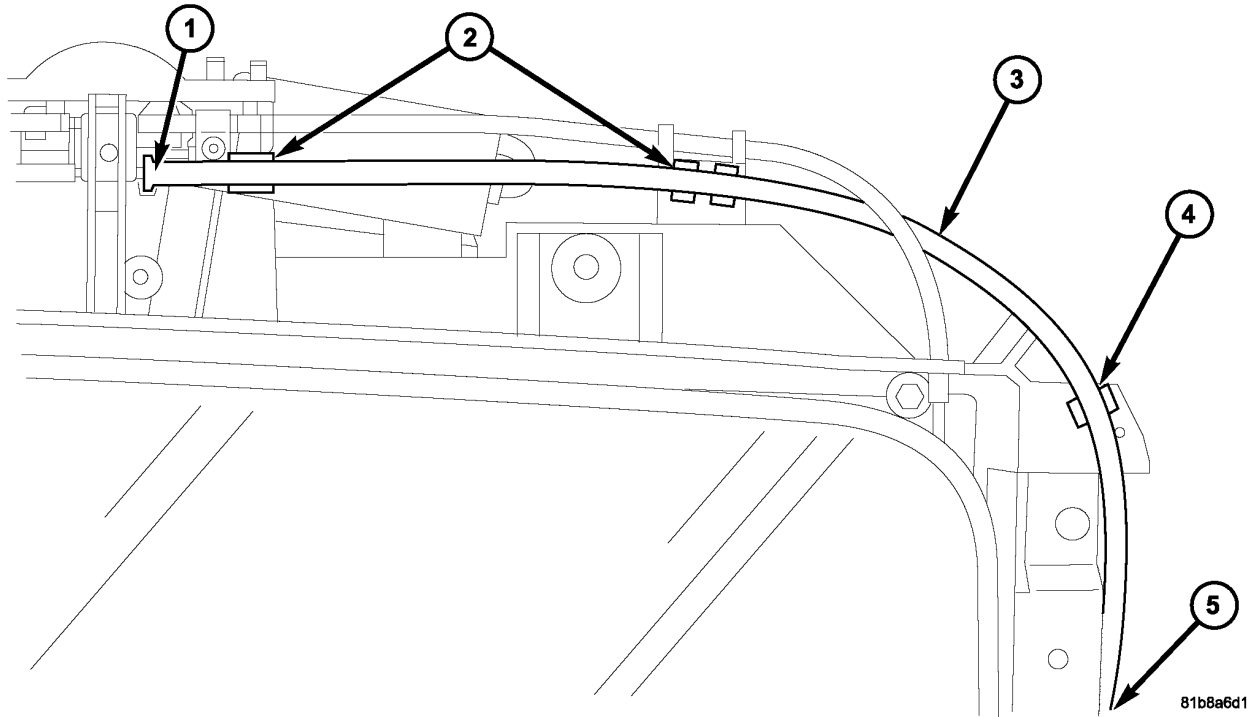

Fig. 6 CONDUIT ROUTING/RETENTION
6. Push the conduit up and inboard to release it from the retention feature on the front beam, (Fig. 6) item 4.
- 7. Push the conduit up to release it from the additional retention features, (Fig. 6) item 2.
- 9. Slide the new conduit, p/n 68003816AA, back over the drive cable. See (Fig. 6) item 1, to ensure conduit is seated into notch to the rear of the steel drive cable tube.
- 10. Secure the conduit in the retention features shown in (Fig. 6).